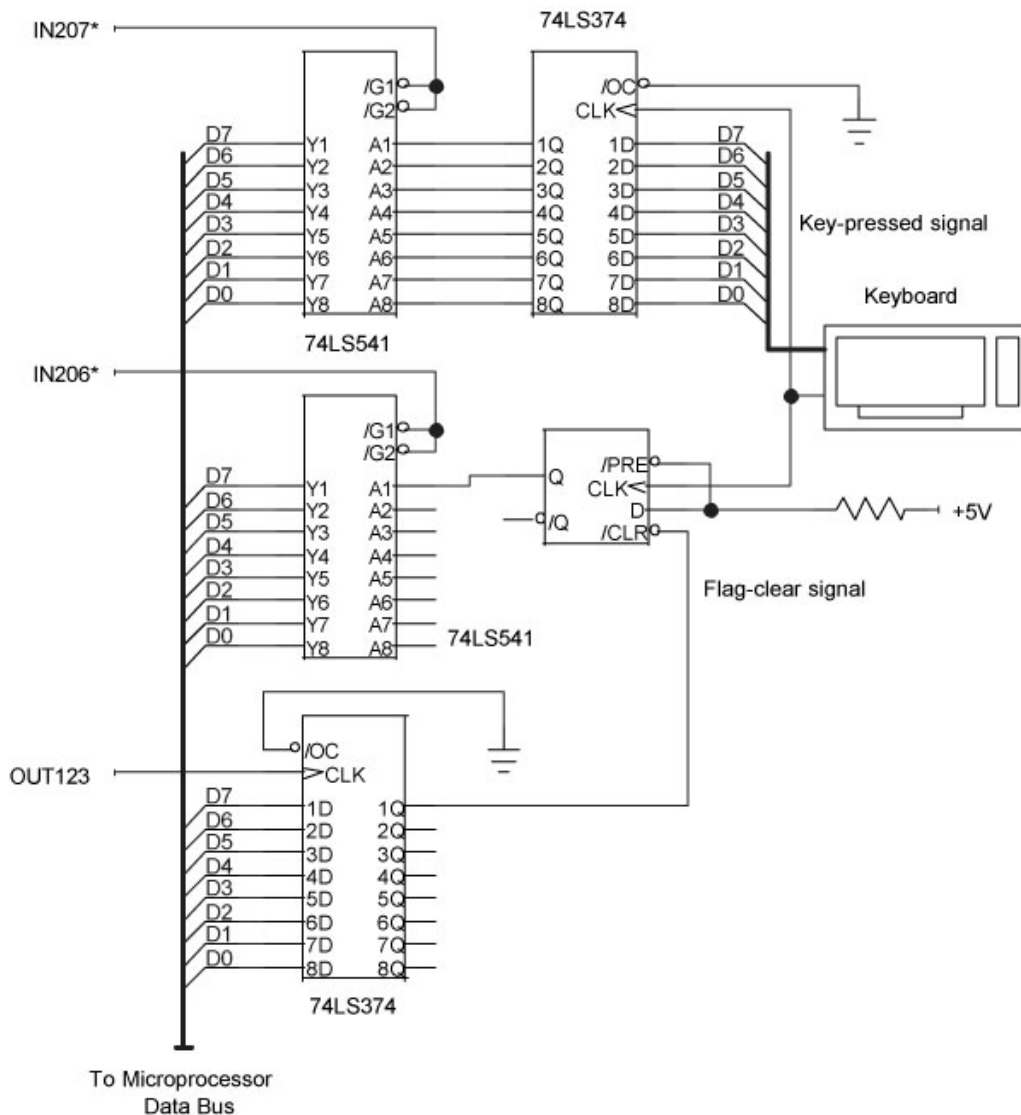

Figure 3-13
interface circuit (**Figure 3-13**) uses an 8-bit input port (207) for the keyboard data, one bit on an input port (206) for the keyboard flag, and one bit on an output port (123) to clear the flag. The software must check the keyboard flag regularly to determine when the keyboard latch has new information.
Now the keyboard circuit needs software to test and reset the flag and to get data. Assume the flag input port (206) also connects to flags from other devices. To keep a design such as that shown in **Figure 3-13** easy to debug and document, we suggest you use the same